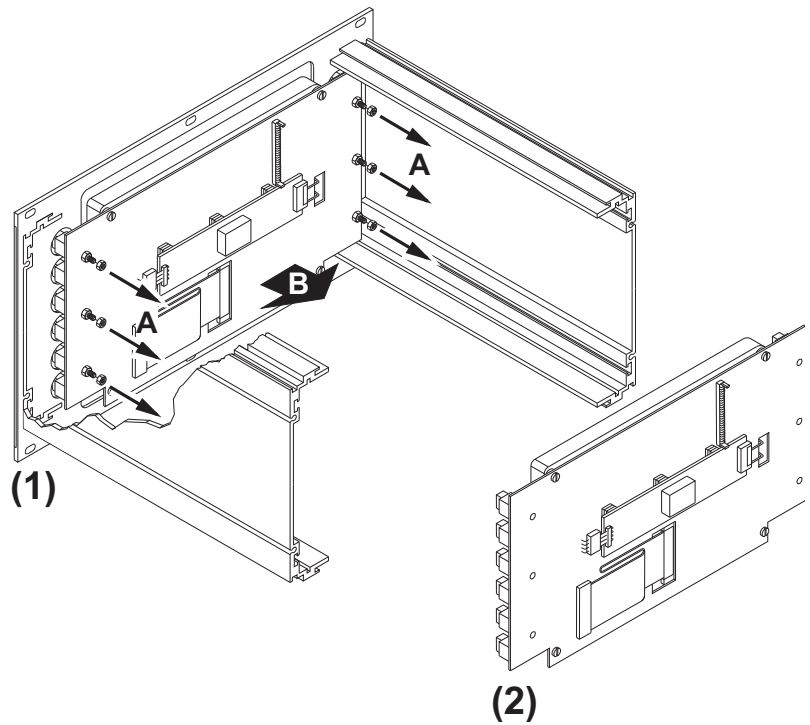

Fig. 8-5: Removing the mounting unit with the display
8. Loose the six fixing nuts (A) from the standoffs of the display pcb and store them. Carefully take off the mounting unit (B) out of the frame. Please send the unit back to RTW. (Fig. 8-5)